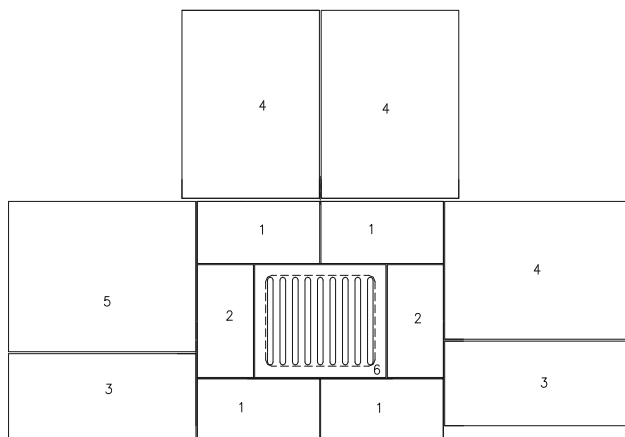

Abb. 5.
1.Top plate; 2. Secondary air regulator; 3.Body; 4.Fire door; 5.Small handle (for regulator); 6. Primary air regulator; 7. Niche; 8.Ashtray; 9. Safety bar; 10.Handle; 11.Brick set(Fig.5); 12.Deflector; 13.Grate; 14.Flue socket; 16.Ceramic tea-shelf plates; 17. Spring.